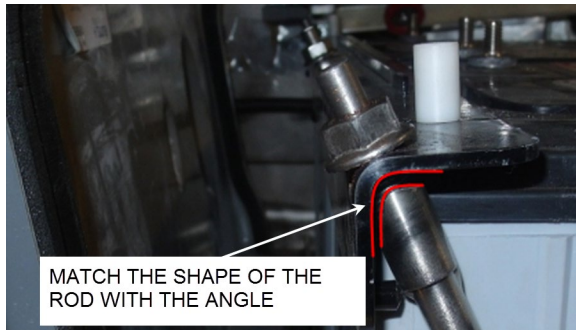

FIGURE 56: SHAPE OF THE ROD
- The upper end of the rods is shaped to match with the angle (FIGURE 56).